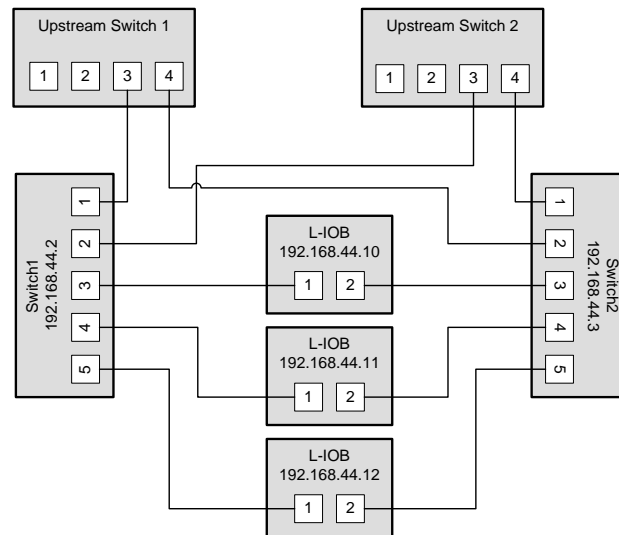

Figure 101: Fully redundant Ethernet topology
**Fully redundant topology:** Both Ethernet ports are connected to a different upstream switch. Thus, a single cable or upstream switch problem can be tolerated. This topology requires RSTP. In Figure 101, the L-IOB devices with IP addresses 192.168.44.10 to 192.168.44.12 are connected in this way. This connection scheme increases switch and cabling costs, but increases network resilience. Note that the upstream network is connected via the lowest-numbered ports. If this is not possible, the ports need to be configured to the lowest STP port priority value (which is the highest priority).
**Redundant upstream connection:** Switch1 and Switch2 are both connected to the upstream network, either to two ports on the same switch or to two redundant upstream switches. In this case, RSTP is needed to ensure a loop-free topology between the upstream switches, Switch1 and Switch2, so the RSTP domain includes the upstream network and the chained L-IOB devices. The configuration of Switch1 and Switch2 need to ensure that they are not selected as the root bridge. If possible device communication should be bound to a separate VLAN and MSTP (Multiple Spanning Tree Protocol) should be employed to isolate the spanning tree operations. This topology is shown in Figure 101.
The following example shows the configuration commands for Switch1, Switch2 and the upstream switch (HP Procurve syntax) in the setup shown in Figure 101.